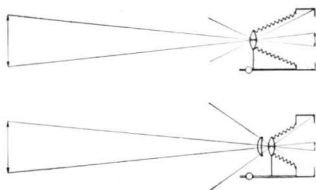

Figure 5. Portra Lens: for wide-angle work at shorter than normal lens-to-film distance.
3. Portra Lenses can be used on most cameras of the film-pack type to secure wide-angle effects, since the focal length of the combined camera and Portra Lenses is shorter than that of the camera lens alone. (See Figure 5.) The camera must be focused by means of the ground glass; the camera lens will be back of its usual infinity position. The stronger the supplementary lens, the wider is the angle of view; thus, the 3+ lens gives the widest angle.